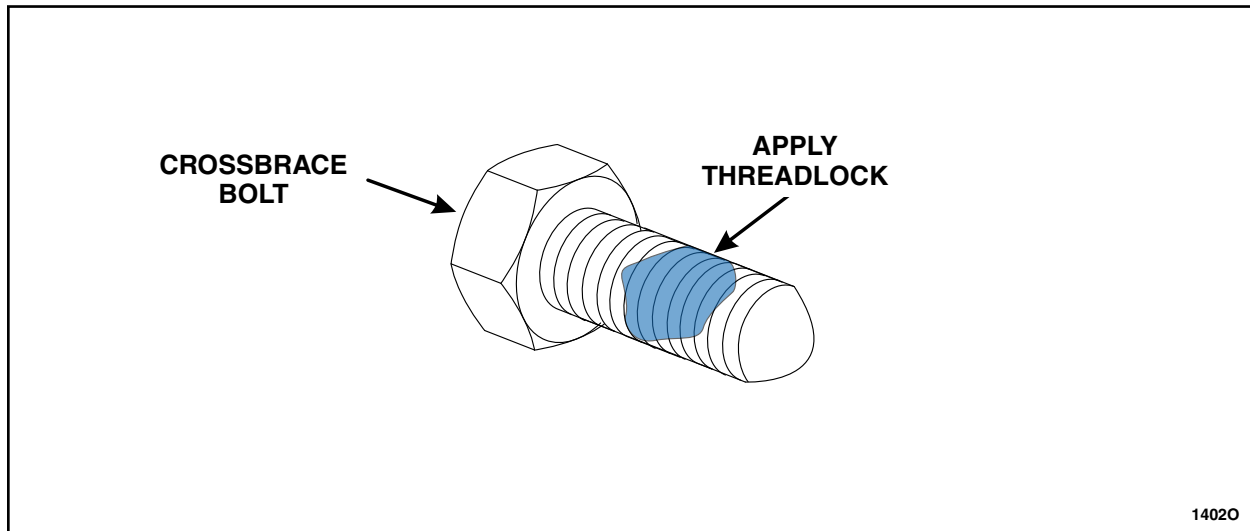

FIGURE 4
2. Check the crossbrace bolts for a thread lock patch. If the patch is not present, apply Threadlock and Sealer - Motorcraft® Part Number TA-25-B before proceeding to Step 3. See Figure 4.